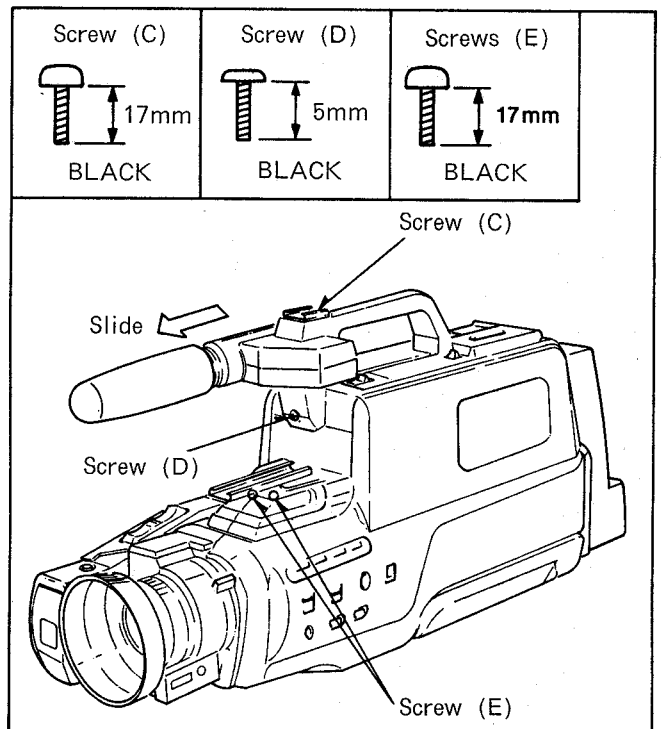

Fig. D3
- (1) Remove 2 Screws(E) shown in Fig.D3.
- (2) Remove 7 Screws(F), 2 Screws(G).
- (3) Lift the side case(R) unit slightly.
- (4) Disconnect the connector P4501 from Main C.B.A.